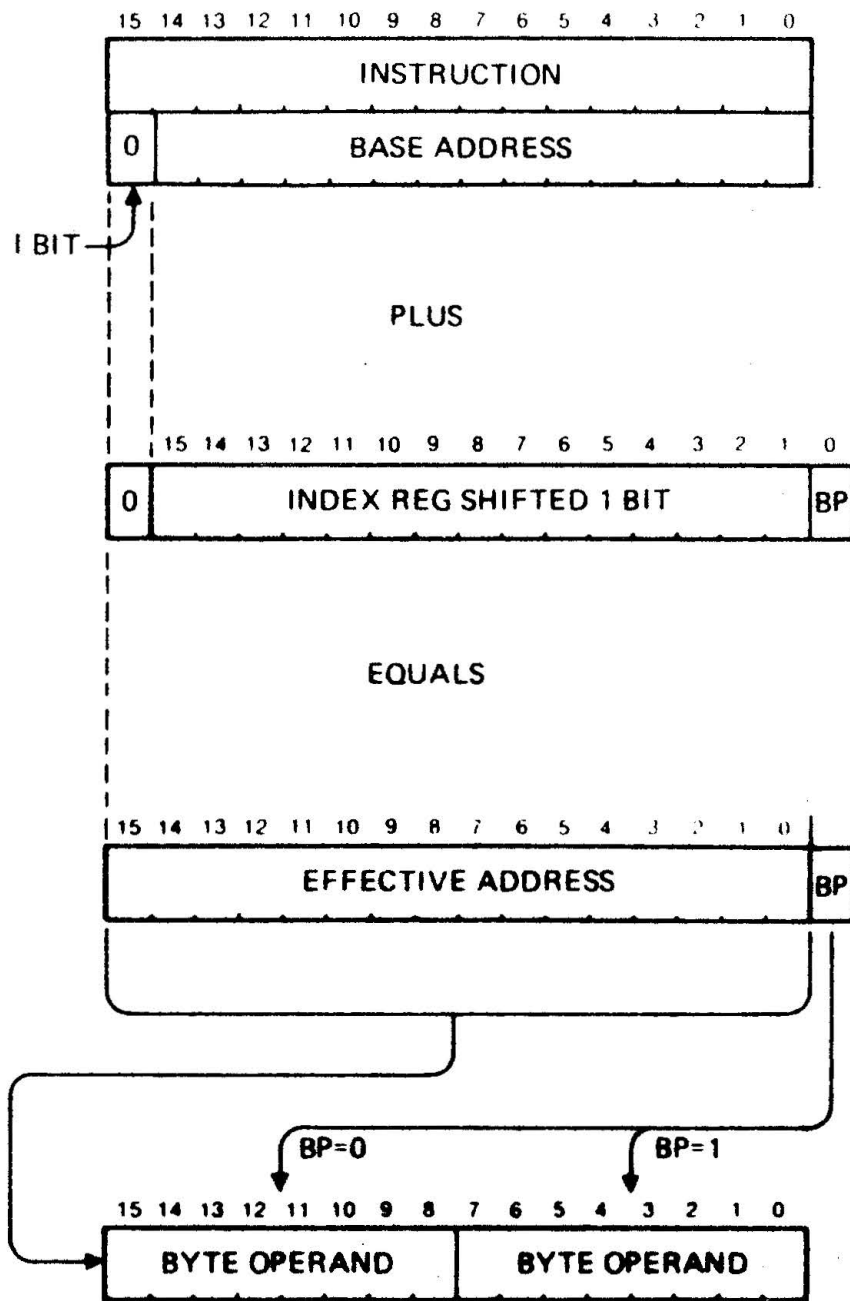

Figure 4-1. Byte Addressing, Indexed Mode
As shown in figures 4-1 and 4-2, byte addressing consists of an indexed mode and an indexed indirect mode. The base address word is summed with the contents of the index register (shifted arithmetically one bit to the right) to form the effective word address of the byte operand. The least-significant bit (bit 0) of the index register, referred to as the byte pointer (BP), determines the position of the byte operand. When the byte pointer is zero, the left byte (bits 8 through 15) is specified; when it is one, the right byte (bits 0 through 7) is specified. Indexed or indexed indirect addressing is specified by bit 15 (I bit) of the address. When the I bit is zero, indexed addressing is specified; when it is one, indexed indirect addressing is specified. If indexed indirect addressing is specified, postindexing is used. One level of indirect addressing is the maximum for byte instructions. For the other V75 instructions (non-byte instructions), up to four addressing modes are possible. These four modes are direct, indexed, indirect, and preindexed indirect.